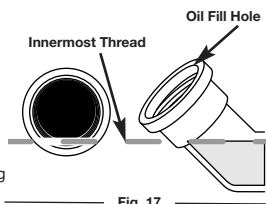
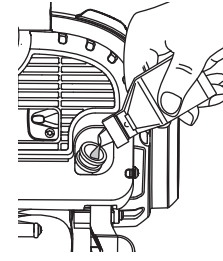

Fig. 17
Fig. 20
- Look into the oil fill hole (use a flashlight if needed). The oil should be just touching the innermost thread (Fig. 17).
- If the oil level is not touching the innermost thread on the oil fill hole, add a small amount of oil to the oil fill hole and recheck (Fig. 17). Repeat this procedure until the oil level reaches the innermost thread on the oil fill hole.
- Refill the crankcase with 2.03 fluid ounce (60 ml) of SAE 30 SF, SG, SH oil (Fig. 20).
**NOTE:** Use the bottle and spout saved from initial use to measure the correct amount of oil. The fill line on the label on the bottle measures approximately 2.03 ounces (60 ml) (Fig. 20). Check the level, See Checking the Oil Level. If the level is low, add a small amount of oil and recheck. Do not overfill (Fig. 17).